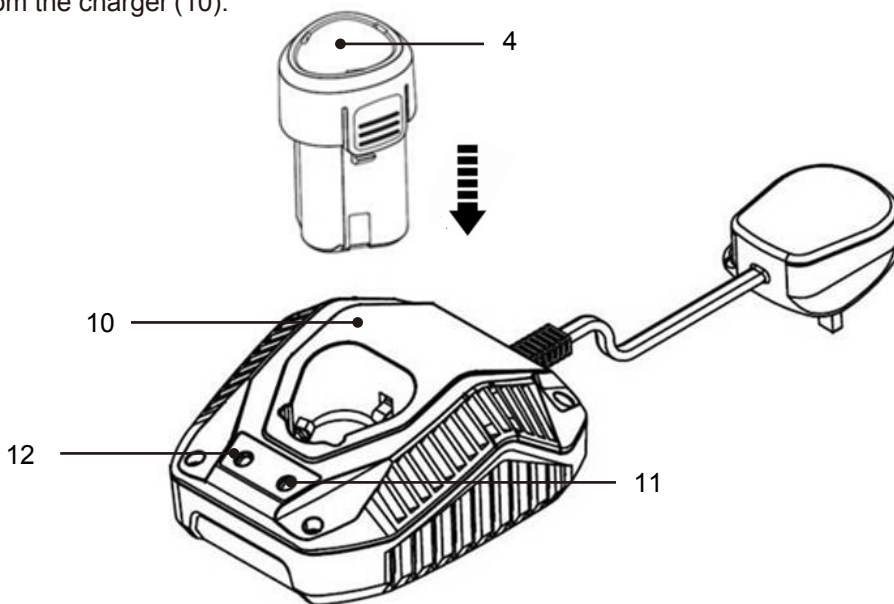

Fig. 11
> Insert the battery pack (4) in the charger (10) (Fig. 11). Connect the charger to the power supply. The indicator lights(11/12) on the charger show the status as described in below table.